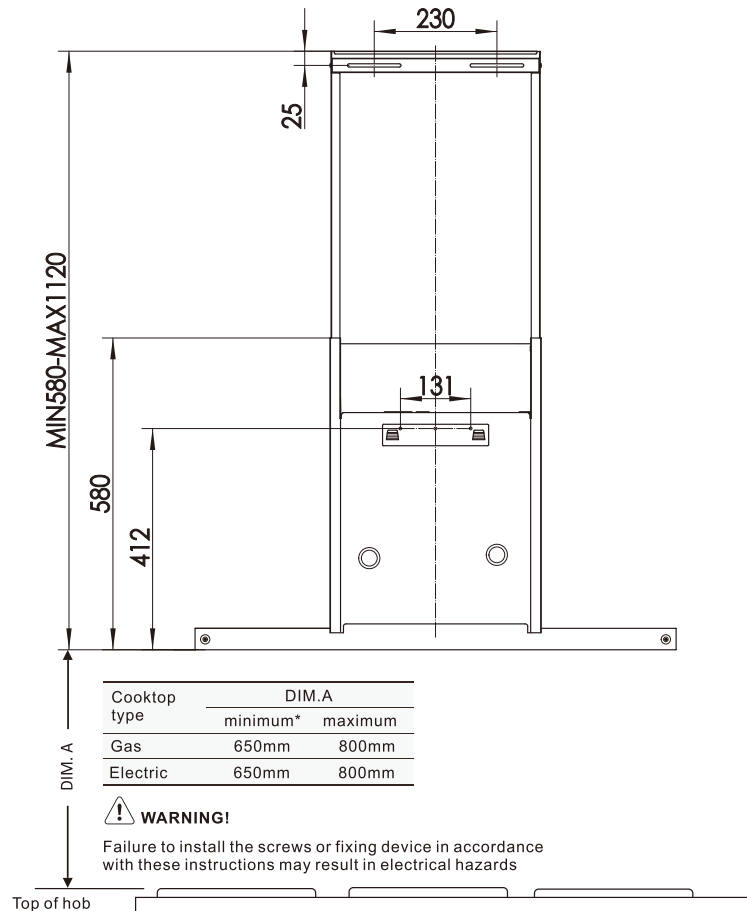

Fig6
2. Mark the location for flue cover wall mounting brackets and cooker hood mounting points above the hood base as the reference point (Fig. 6).